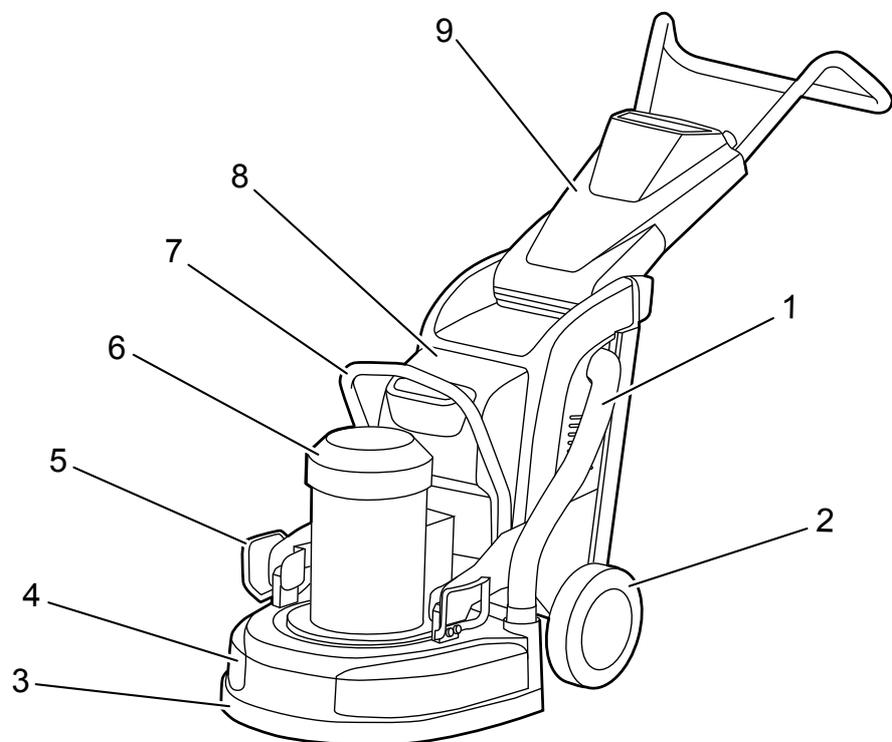
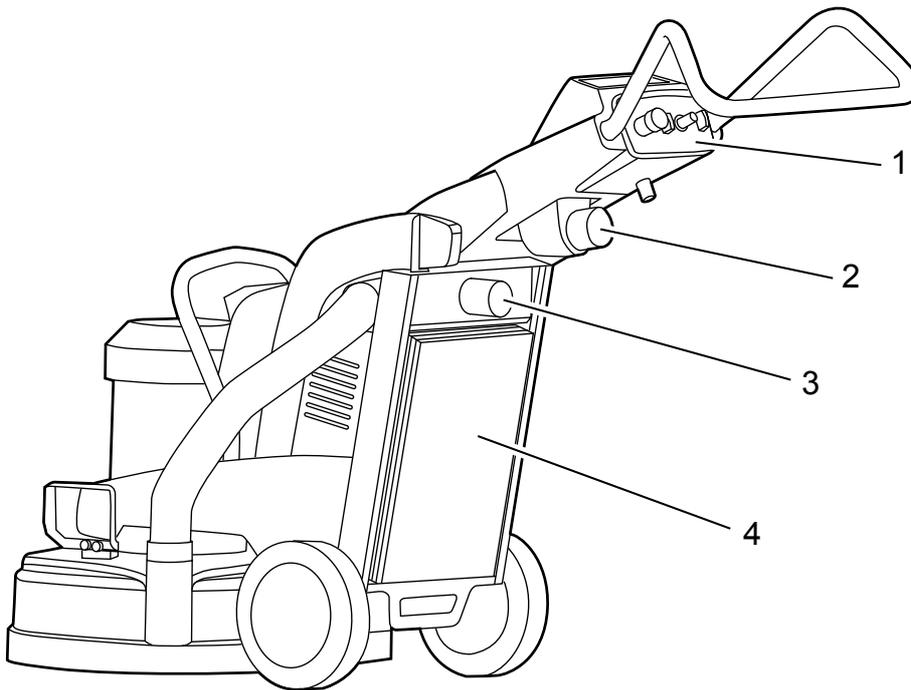

Figure 3-1 Machine front
Figure 3-2 Machine rear
The machine is built around a number of main components - see Figure 3-1 on page 9 and Figure 3-2 on page 10. It has three motor options: 230 V 1-phase (EU), 400 V 3-phase (EU) and 115 V 1-phase (US).